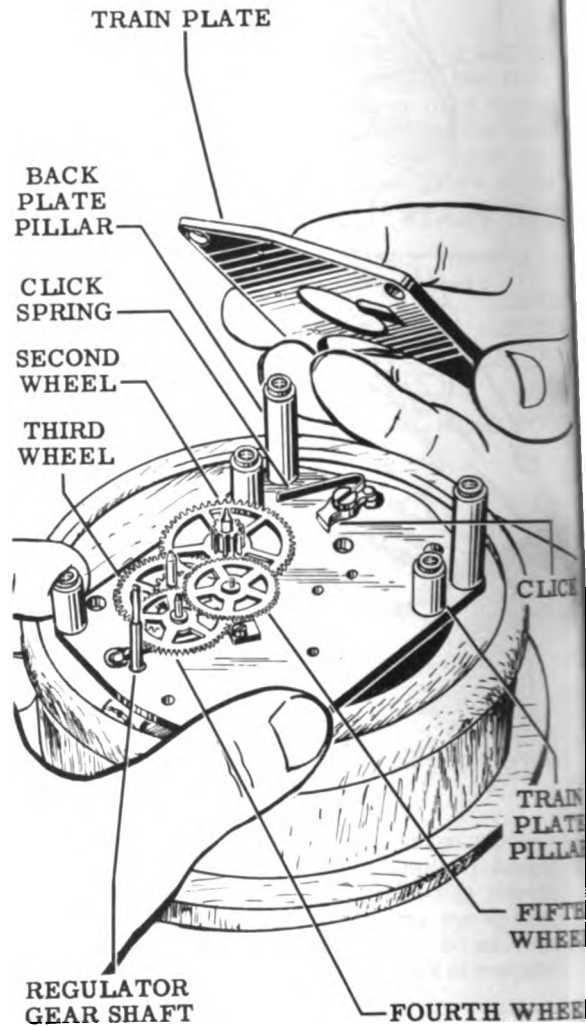

Figure 115
3. Place the third, second, fourth and fifth wheels in the positions shown in Fig. 115.
Put on the train plate as shown in Fig. 115 and fasten it down with the two train plate screws and the two back plate pillars. Use the special pillar pliers (Tool No. 6A) to tighten the back plate pillars. Use the special collar (Tool No. 13A) on the end of an automatic screwdriver to put on the screws. This prevents scratching the plate and speeds up the work.